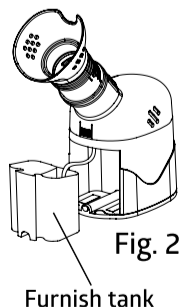

Fig. 2
6. Pour about 80 ml of pure water or mineral water with attached cup into furnish tank as shown in figure 2.